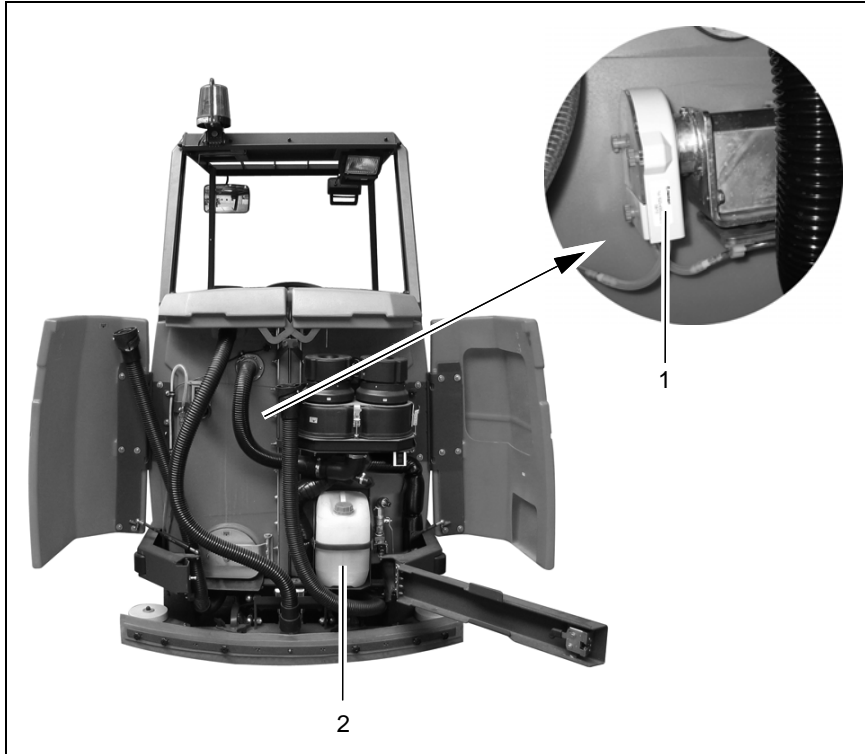

Fig. 17
- **Chemical dosing system (Fig. 17/1)** (7564.02)
The chemical dosing system adds a chemical cleaning agent to the fresh water. The chemical cleaning agent is in a canister (Fig. 17/2) and is not part of the scope of delivery of the chemical dosing system.